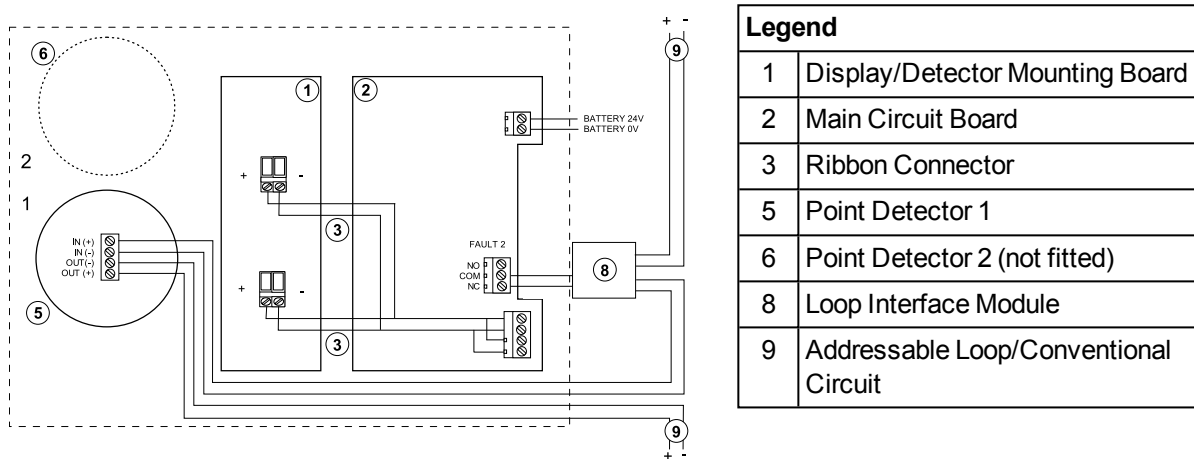

Figure 2-7: Wiring diagram for an IAS-1 system with a directly wired Addressable Detector
2. To ensure the correct operation of the Short Circuit Isolation functionality, point detectors or bases with Short Circuit Isolation approved to EN 54-17 should be wired directly to the loop as shown in Section 2.3.6, Figure 2-7.